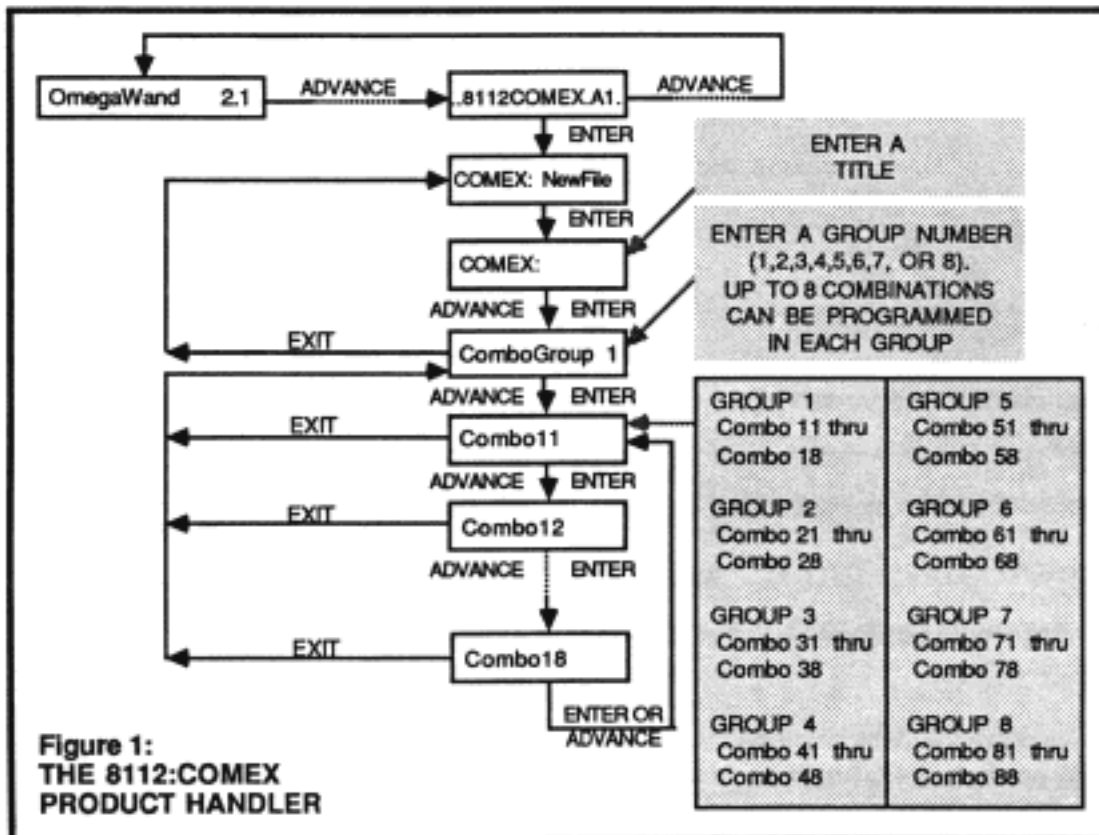

Figure 1:
- If you do *not* intend to save this file, scan the ENTER or ADVANCE bar code. **COMBOGROUP 1** appears in the display. This is the first item of the 8112Comex program. To continue programming, see Section 8. (See Figure 1 for an overview of the 8112Comex Product Handler program.)